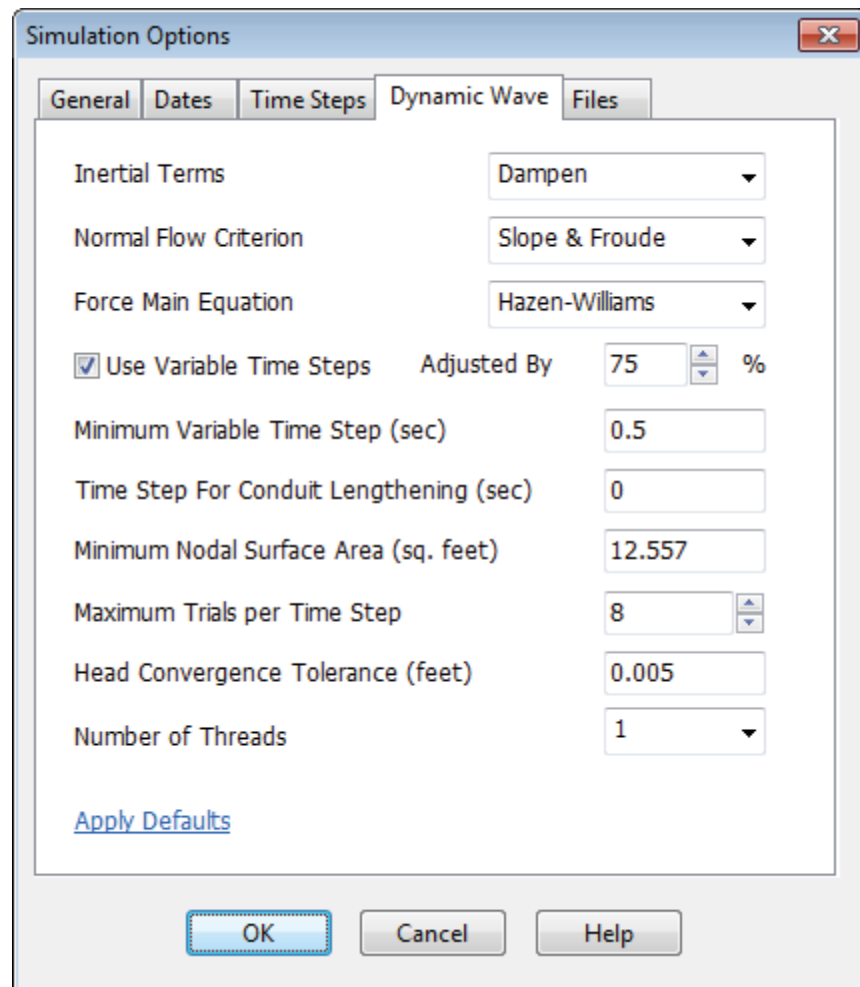

Figure 2-18 Dynamic wave simulation options
3. On the **Dynamic Wave** page of the dialog, use the settings shown in Figure 2-18⁹.